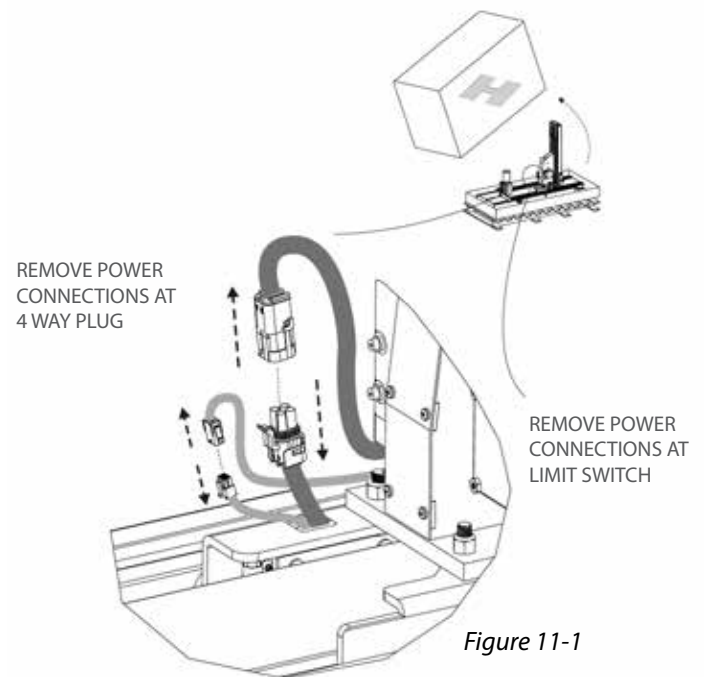

Figure 11-1
- Remove connections at limit switch and remove power connections at 4-way plug. [Figure 11-1]